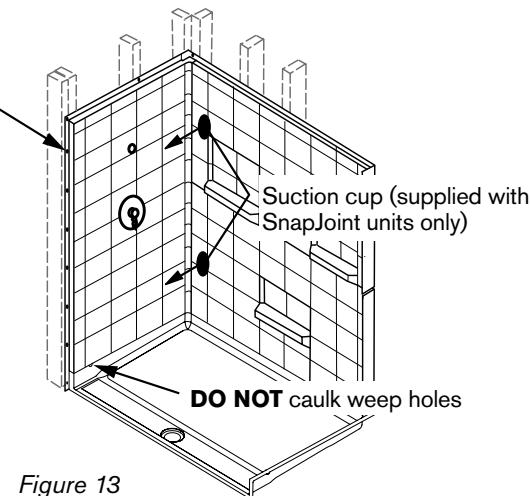

Figure 13
- 7 For SnapJoint Walls ONLY:** With a suction cup on lower back wall panel, pull it firmly forward until back and side walls are pulled together. You will hear a series of clicks as the panel locking clip engages. Repeat with upper panel. (Figure 13)
- 8** Screw top flange of back wall to studs. Apply silicone caulk in all joints **except weep holes**, which are located near the front on the seam between the pan and side wall. (Figure 13)